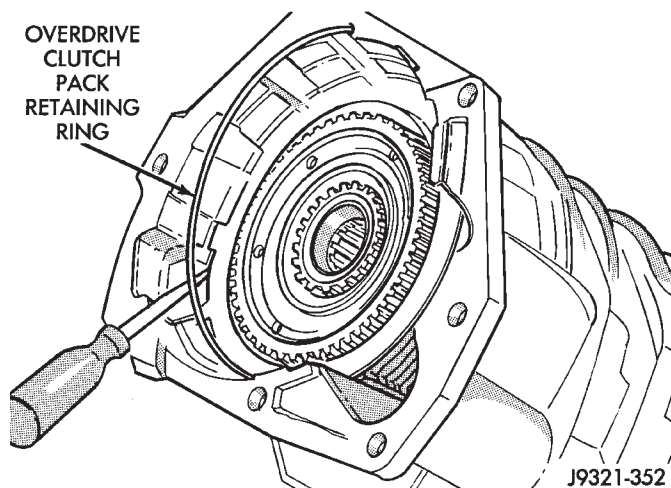

Fig. 8 Removing Overdrive Clutch Pack Retaining Ring
- (1) Remove overdrive clutch pack wire retaining ring (Fig. 8).